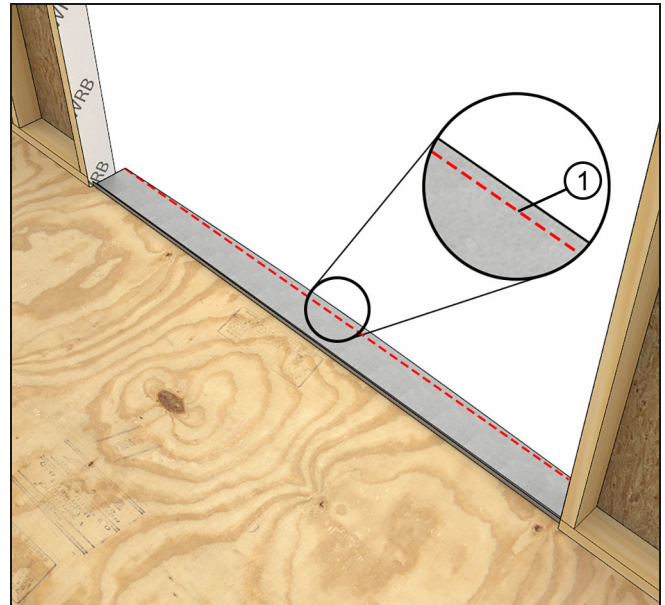

Figure 20
3. Start with a flat and level opening. See Figure 20.
4. Establish an exterior plane along the sill. Use a laser level or snap-line. This will be helpful for larger multiple wide assemblies. See Figure 20.